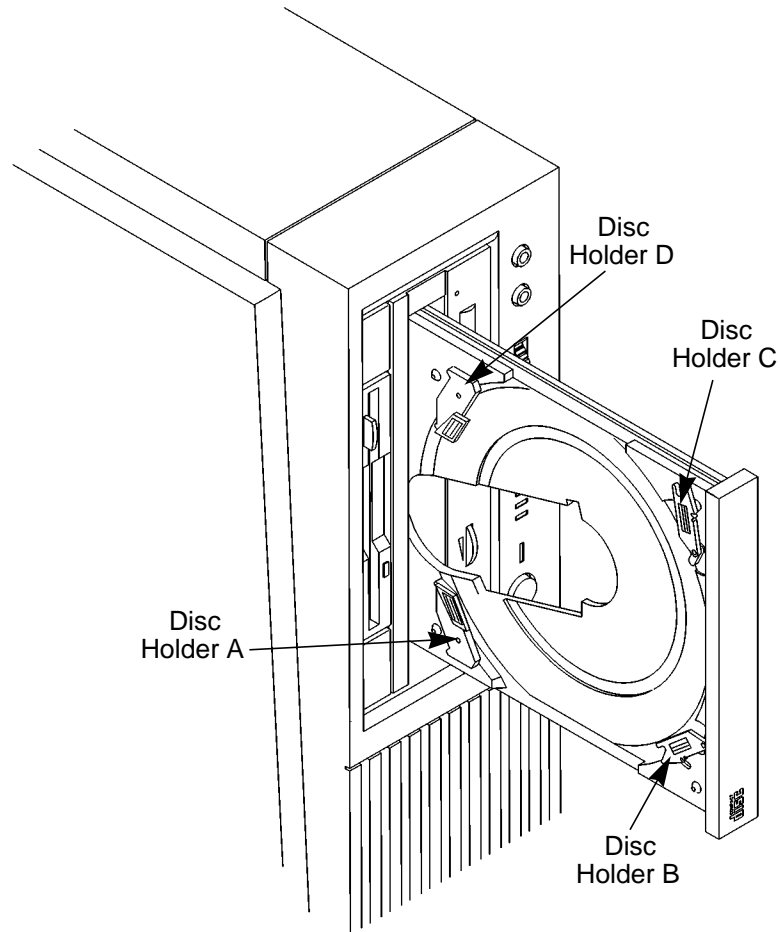

Figure 12
- 1 Make sure the four disc holders are disengaged from the disc holder retainers, as shown in Figure 12.